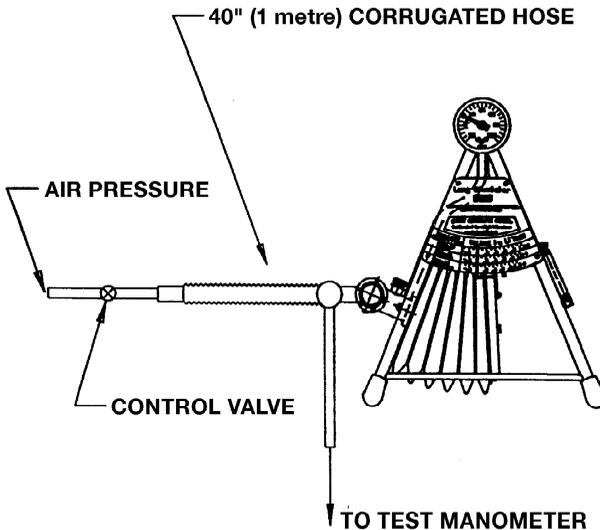

FIGURE 3. TEST APPARATUS
5. Connect the test apparatus to the patient circuit connection as shown in figure 3.